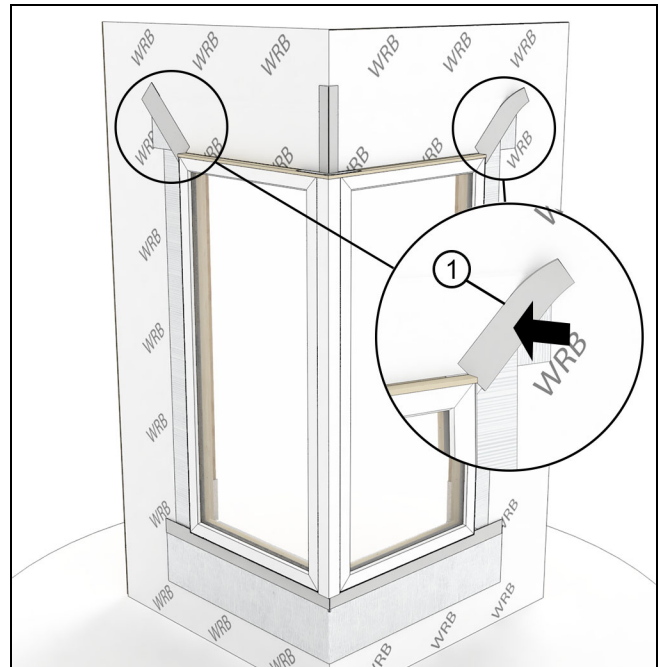

Figure 66
9. Apply seam seal tape over the diagonal cut in the air barrier at the top corners. Make sure the tape laps onto the unit or casing. Tape and seal any seams and fasteners directly above the unit. See Figure 66.